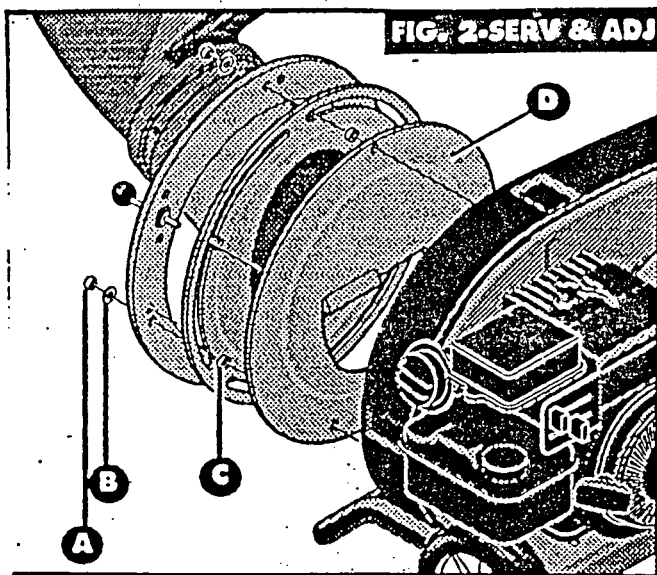

FIG. 2-SERV & ADJ
- Leaves and small branches can be fed into the Hopper assembly when it is in the raised position (See FIG. 2-OP). If it becomes necessary to push material into the Chipper/Shredder, use the supplied debris tamper - NOT YOUR HANDS.
- The rotating Hopper assembly requires lubricating to maintain optimum performance. Approximately every five (5) hours of operation, before each use, and before storage, lubricate the Hopper assembly rotating plate. Using a hand grease gun, filled with a good quality, all-purpose grease, lubricate the three (3) zerk fittings found on the Hopper assembly retainer ring.
- Fill each zerk with approximately five (5) shots of grease. Rotate Hopper assembly to the ground as shown in FIG.5-OP and apply five (5) more shots of grease to each of the three (3) zerks. Rotate Hopper assembly several times to spread lubricant around. **NOTE:** Should lubricating the Hopper assembly fail to provide adequate rotation, remove the entire Hopper assembly from unit (See FIG.2-SERV). Clean debris from all rotating parts, replace or repair any damaged parts, reassemble Hopper assembly securely to unit and lubricate according to procedure above.
- Caster wheel (optional) approximately every ten (10) hours of operation and before storage, lubricate the zerk fitting found above the caster wheel with three (3) shots of a good quality, all purpose grease.
- Remove the three (3) hex locknuts (item A) and flatwashers (item B) from the housing studs and carefully separate the Hopper assembly from the remainder of the unit (See FIG. 2-SERV. & ADJ.).
- Remove the three (3) bushings (item C) and stationary plate (item D). (See FIG. 2-SERV. & ADJ.) NOTE: When reassembling, make certain the opening of the stationary plate is toward the bottom of the unit and the offset, is facing toward the impeller assembly.
- Remove the three (3) hex locknuts (item A) and flatwashers (item B) from the housing studs and carefully separate the Hopper assembly from the remainder of the unit (See FIG. 2- SERV & ADJ.).
- Remove the three (3) bushings (item C) and stationary plate (item D) (See FIG. 2- SERV & ADJ.) (NOTE: When reassembling, make certain the opening of the stationary plate is toward the bottom of the unit and the offset, is facing toward the impeller assembly).